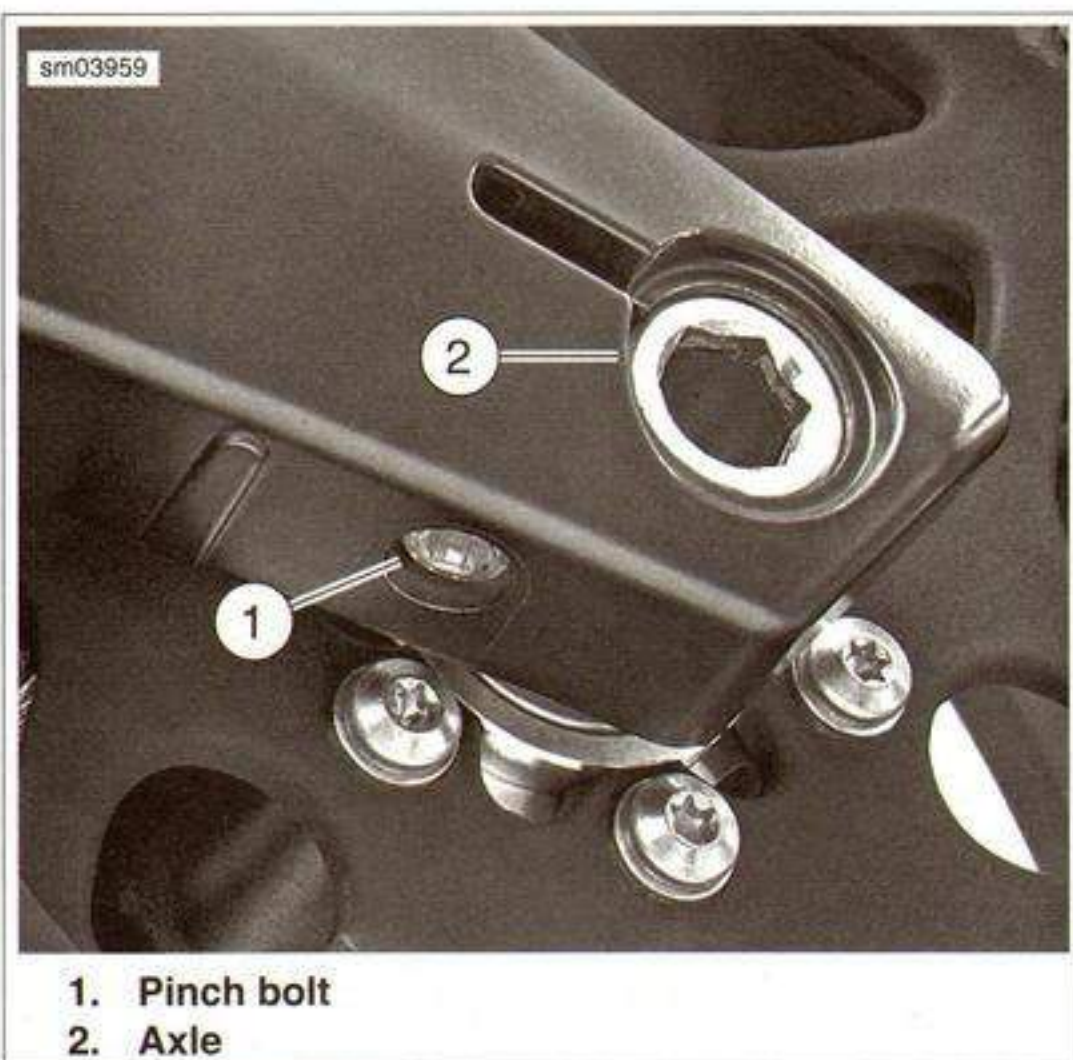

Figure 2-30. Rear Axle: 1125R
4. See Figure 2-30. Loosen the rear axle pinch bolt (1).